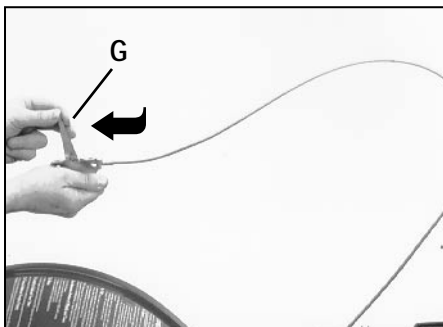

Figure 2-5: Carefully unwrap Wheel Gear Lever and move lever to DISENGAGE.
7. To remove the tiller from its shipping platform, first carefully unwrap the wheel gear cable (G, Figure 2-5) from around the chassis. Next, move the Wheel Gear Lever to the DISENGAGE position (this allows the wheels to rotate). Use the handlebars to roll the tiller off the platform.